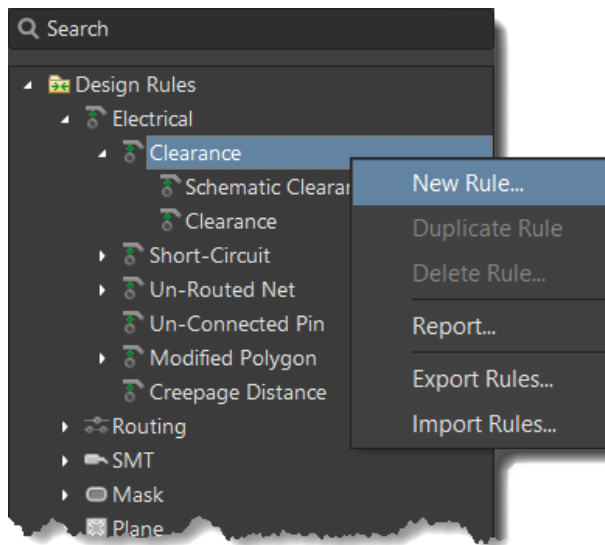

Figure 3. Create a new rule
14. We will now create a new rule which will target the 12V power net. Right-click on the *Clearance* rule type, just underneath *Electrical* and click **New Rule...**, Figure 3.